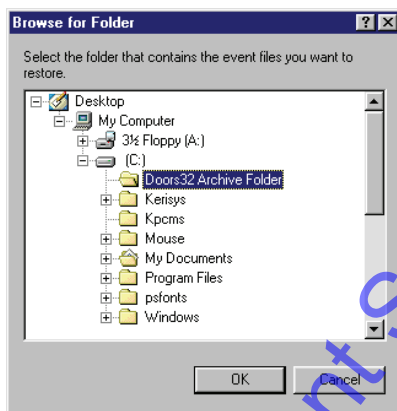

Figure 5-21: Select Folder for Restore
4. Click on the button. The Select Folder for Restore window will appear. Select the folder where the archived files have been placed previously (see Figure 5-21).